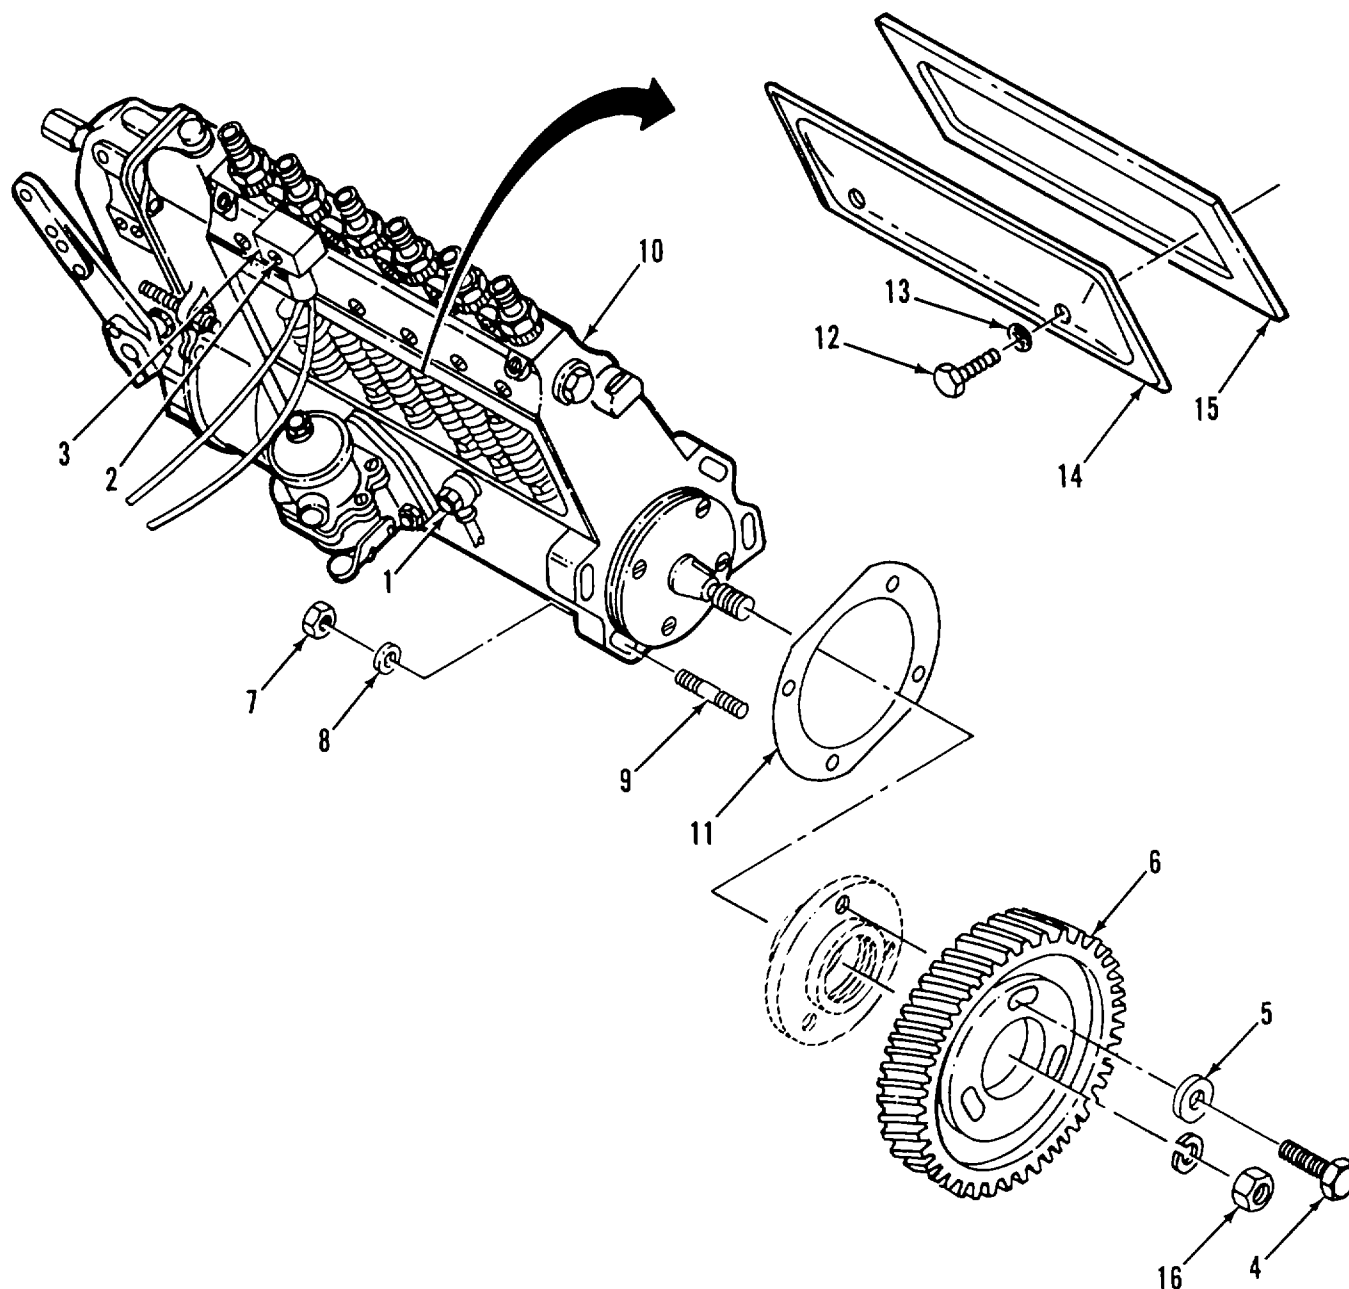
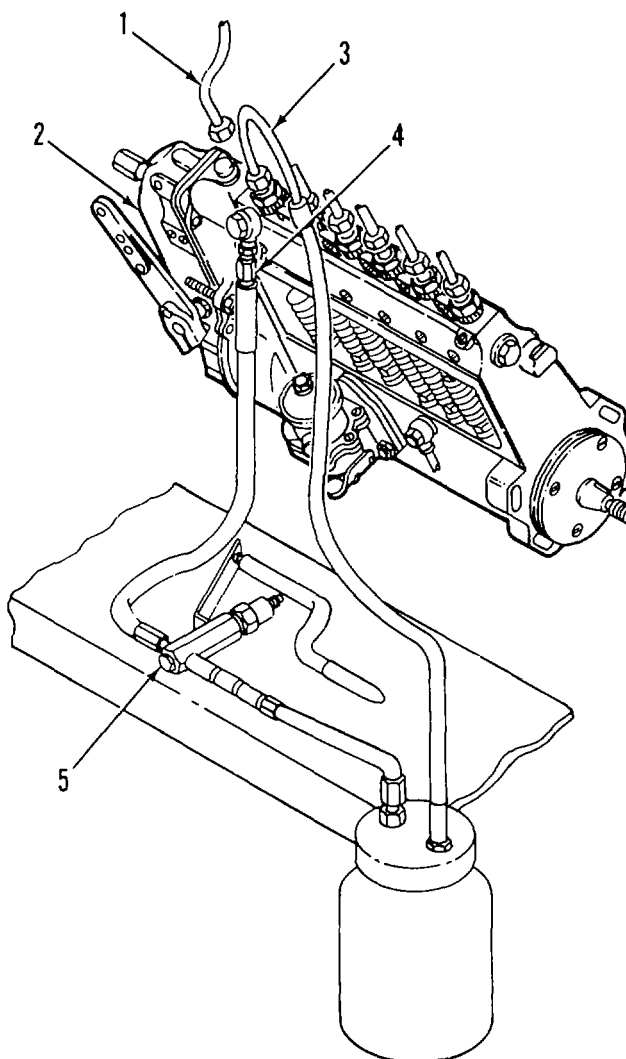

Figure 3-13. Fuel Injection Pump
Figure 3-16. Setting Injection Pump Timing
- (1) Disconnect control linkage to fuel injection pump.
- (2) Disconnect oil line (1, Figure 3-13) to fuel injection pump (8). Cap line.
- (3) Tag and disconnect wires to fuel solenoid. Remove screw (2) and fuel solenoid (3) from fuel injection pump (10).
- (4) Disconnect fuel injection lines from fuel injection pump.
- (5) Disconnect fuel lines at fuel supply pump.
- (9) Remove two of three bolts (4, Figure 3-13) and spacers (5) that secure injection pump drive gear (6) to injection pump (10).
- (10) Remove three of the four nuts (7) and flat washers (8) from injection pump mounting studs (9).
- (a) Remove bolts (12) with O-rings (13), plate (14) and gasket (15) from fuel injection pump (8).
- (c) Install gasket (15) and plate (14) on fuel injection pump (10) with O-rings (13) and bolts (12).
- (2) Remove rag from against injection pump drive gear (6) inside front cover.
- (3) While one person holds injection pump drive gear (6) in place, install fuel injection pump (10) on injection pump mounting studs (9). Secure with flat washers (8) and nuts (7), but do not tighten.
- (4) Install spacers (5) and bolts (4) that secure injection pump drive gear (6) to injection pump (10).
- (5) Connect fuel injection lines to fuel injection pump.
- (6) Tighten nuts (7).
- (7) Connect fuel lines to fuel supply pump.
- (8) Set the injection pump timing as follows:
- (a) Remove No. 1 injection line (1, Figure 3-16) from injection pump (2) and install spill pipe (3) in its place.
- (b) Disconnect main galley fuel supply line from injection pump and connect high pressure line (4) of high pressure hand pump (5) in its place.
- (e) Loosen the three bolts (4, Figure 3-13) that secure injection pump drive gear (7).
- (f) Operate high pressure hand pump (5, Figure 3-16). With socket on nut (16, Figure 3-13), slowly turn Injection pump shaft CW within the mounting slots of injection pump drive gear (6) until the stream from the spill pipe turns to droplets. Then tighten the three bolts (4) that secure injection pump drive gear (6).